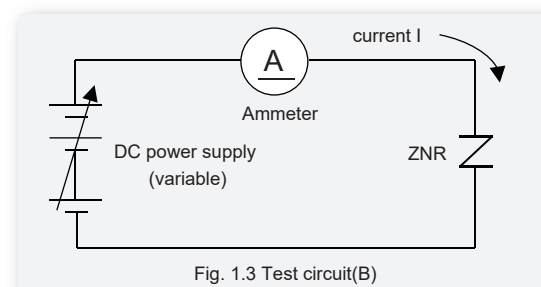

Fig. 1.3 Test circuit(B)
Now take a look at test circuit (B) shown in Fig. 1.3, where the resistor R is replaced with a ZNR (varistor). When voltage E is increased gradually from 0 V and the resulting current flow is plotted on a graph, the current I appearing on the graph is completely different from the straight line that is plotted with the circuit using an ordinary resistor.(see Fig. 1.4)
- ① When voltage E is increased gradually from 0 V, little current I flows until voltage E reaches a given voltage value.
- ② However, at the point voltage E exceeds the given voltage value, the current I starts increasing exponentially.